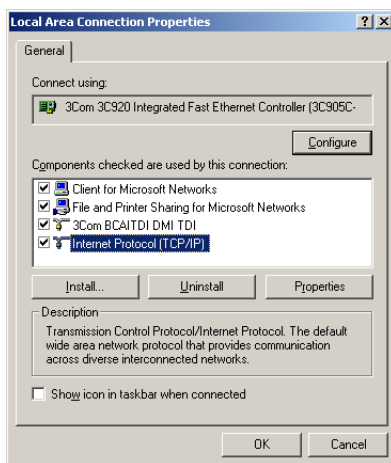

Figure 7-6 Local Area Connection Properties Window
3. Highlight the “Local Area Connection” icon. View the properties by right-clicking and selecting “Properties.” The Local Area Connection Properties Window will open (Figure 7-6).